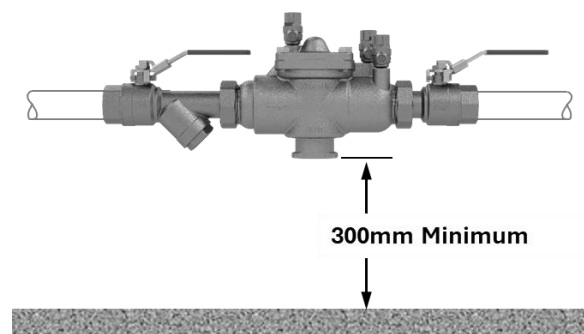

Figure 1: Minimum clearance to discharge vent
- The discharge should be terminated at least 300mm above the ground or through an air gap piped to a floor drain, as shown in Figure 1.